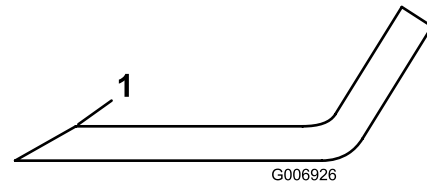

Figure 65
5. Inspect the cutting edges of all blades. Sharpen the cutting edges if they are dull or nicked. Sharpen only the top of the cutting edge and maintain the original cutting angle to make sure that it is sharp (Figure 65).
6. If dull or nicked, sharpen only the top cutting edge while maintaining the original cutting angle (Figure 65).